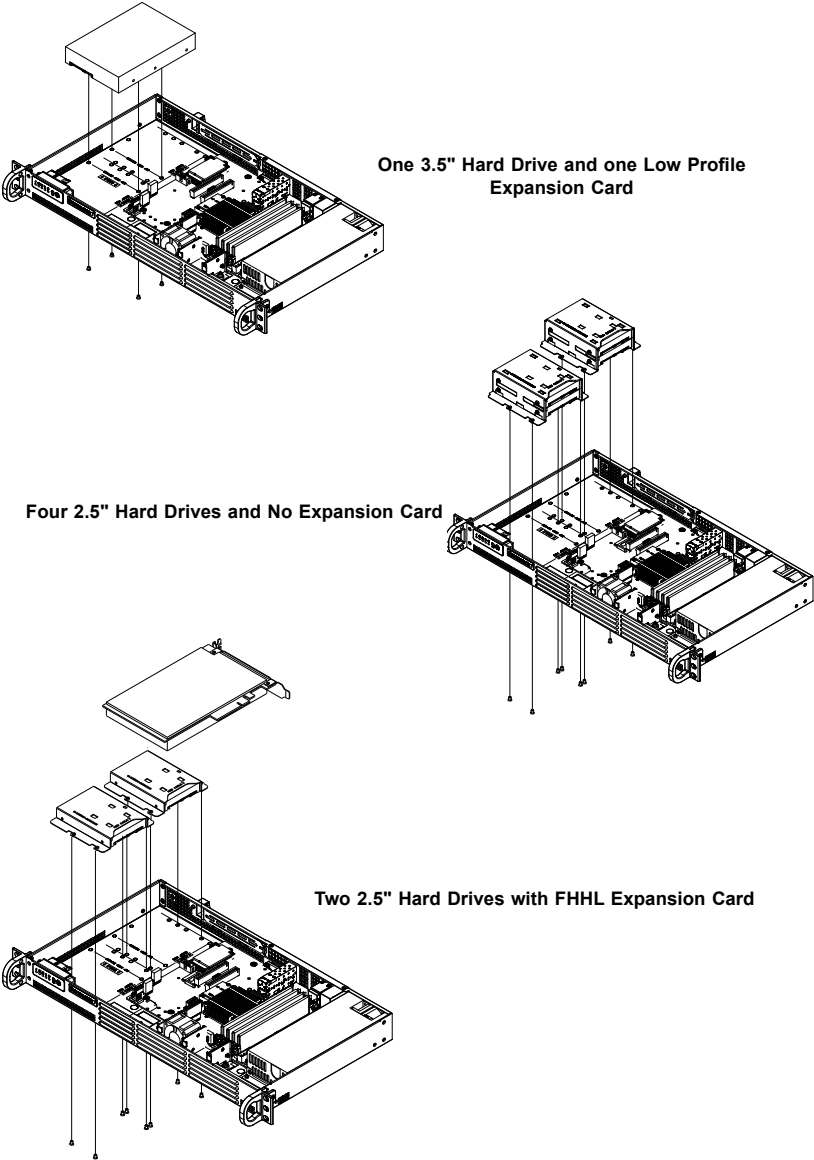

Figure 6-4. Hard Drive Configurations
2. Place the 3.5" hard drive into the chassis as illustrated in Figure 6-4.
3. Place the hard drive and bracket into the chassis as illustrated in Figure 6-4..